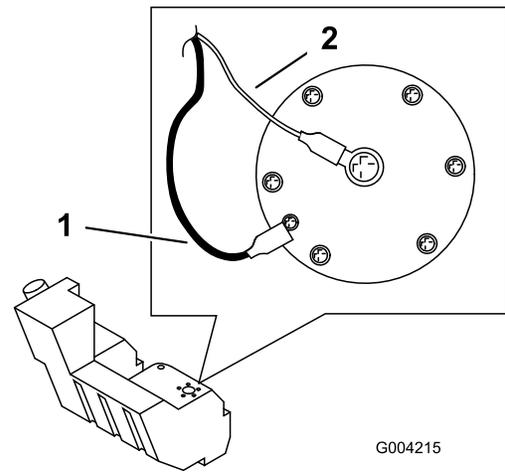

Figure 56
12. Disconnect the two wires leading to the right side of the tank (Figure 56).
19. On the right side of the tank, connect the orange wire to the center post and the black wire to the outside post (Figure 56).